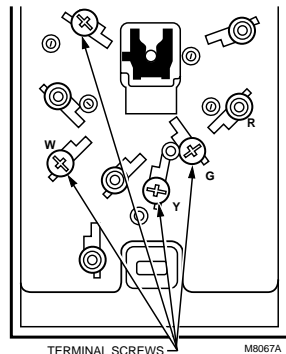

Fig. 4. Connect wires from wall to thermostat matching terminals.
- ❑ Connect wires from the wall to the matching terminals on the back of the thermostat. See Fig. 4. Tighten the screws.